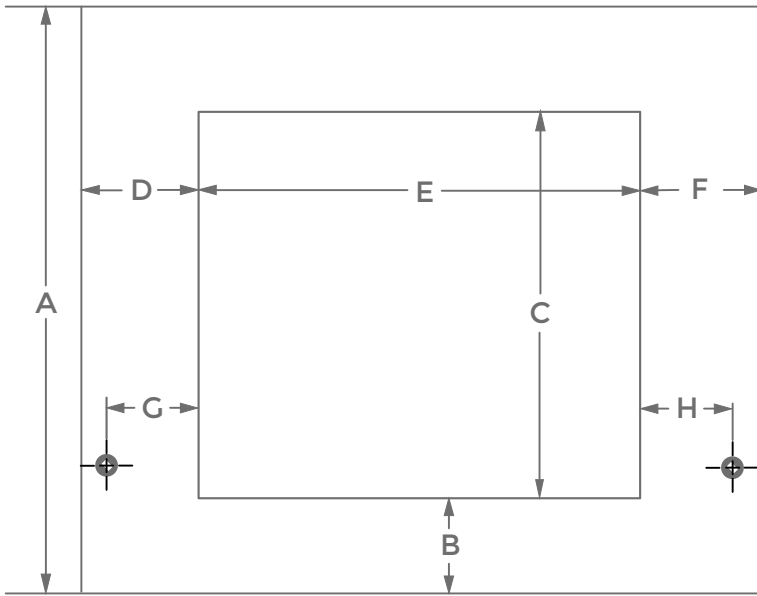
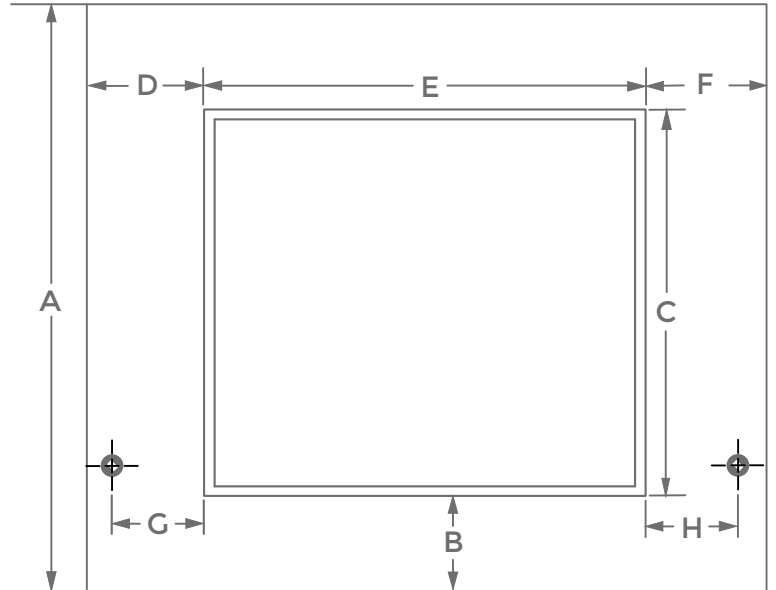

Figure 1: Masonry, Wood-Burning, Firebox Shown
Figure 2: Metal, with glass front, firebox shown
C. Measure the height of the firebox opening, inside edges for masonry fireboxes (Figure 1) or outside edges for fireboxes with doors or louvers (Figure 2).
E. Measure the width of the firebox opening, inside edges for masonry fireboxes (Figure 1) or outside edges for fireboxes with doors or louvers (Figure 2).